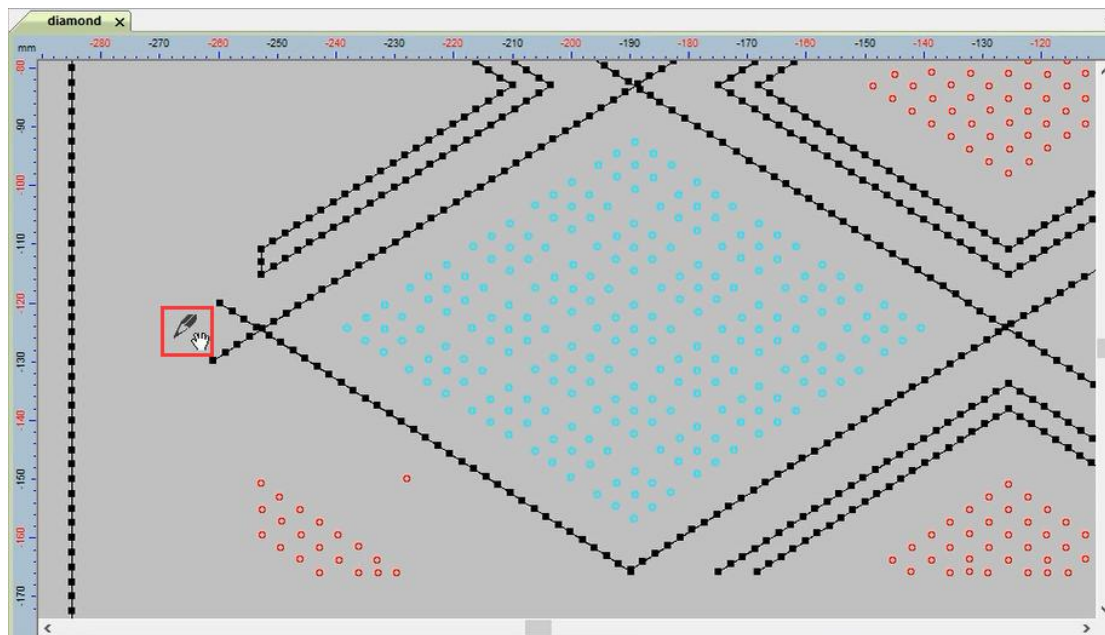

图 1 Picture1
出现图 1 的标识后，点击鼠标右键切换复制个数如图 2。
- Step 4: After selecting, click the smart pen tool, and hold down "Shift and the right mouse button" at the same time in the blank space of the workspace, as shown in Figure 1.
After the logo in Figure 1 appears, click the right mouse button to switch the number of copies as shown in Figure 2.